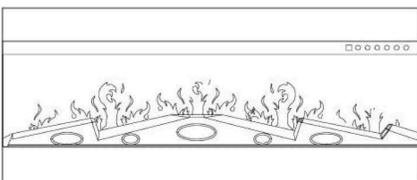

Fig.1
2. If your fireplace come with log-set, take the log-set out of the package and put it to the fireplace media slot (see fig.1)